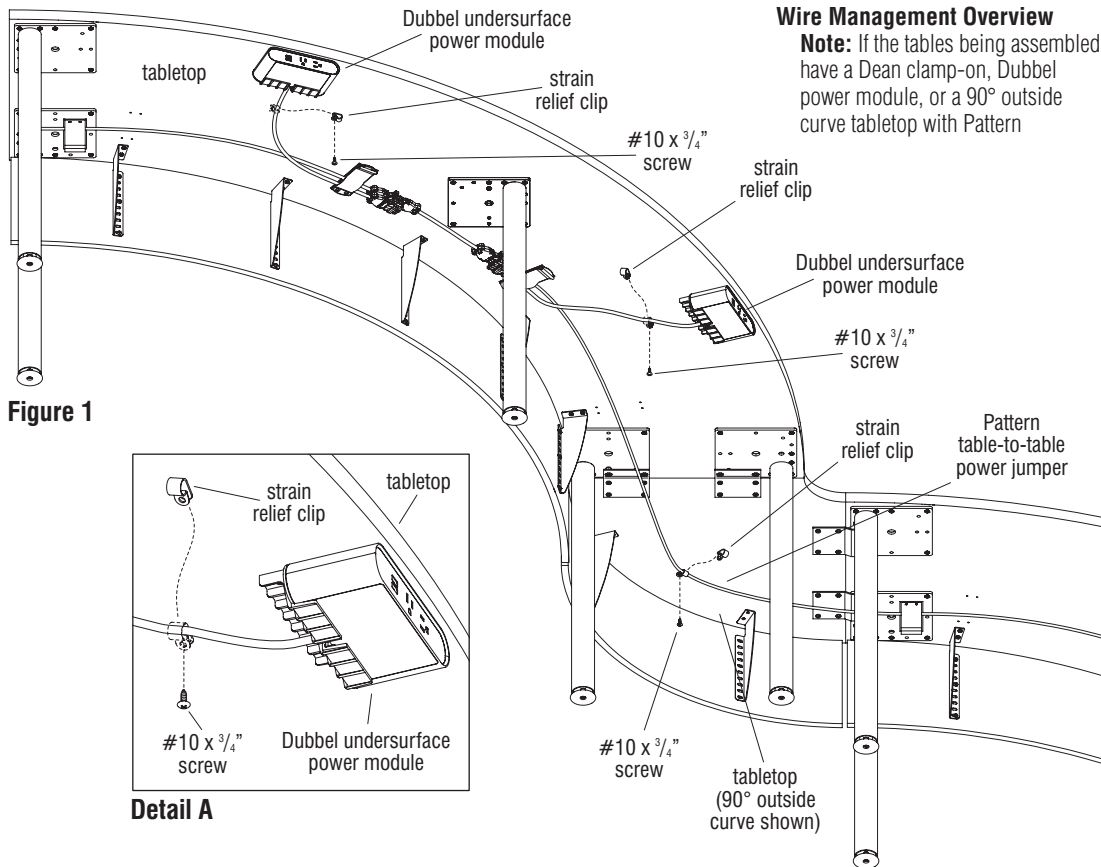

Figure 1
1. Locate strain relief clips and position them at the desired locations above unused pre-drilled holes (Figure 1 & Detail A).
2. Insert the cable into the openings of the clips. Secure the clips to the tabletop using one #10 x 3/4" screw per clip (Figure 1 & Detail A).
1. Place tables at their final location and lock the two front, user side casters in place on each table (Figure 1).